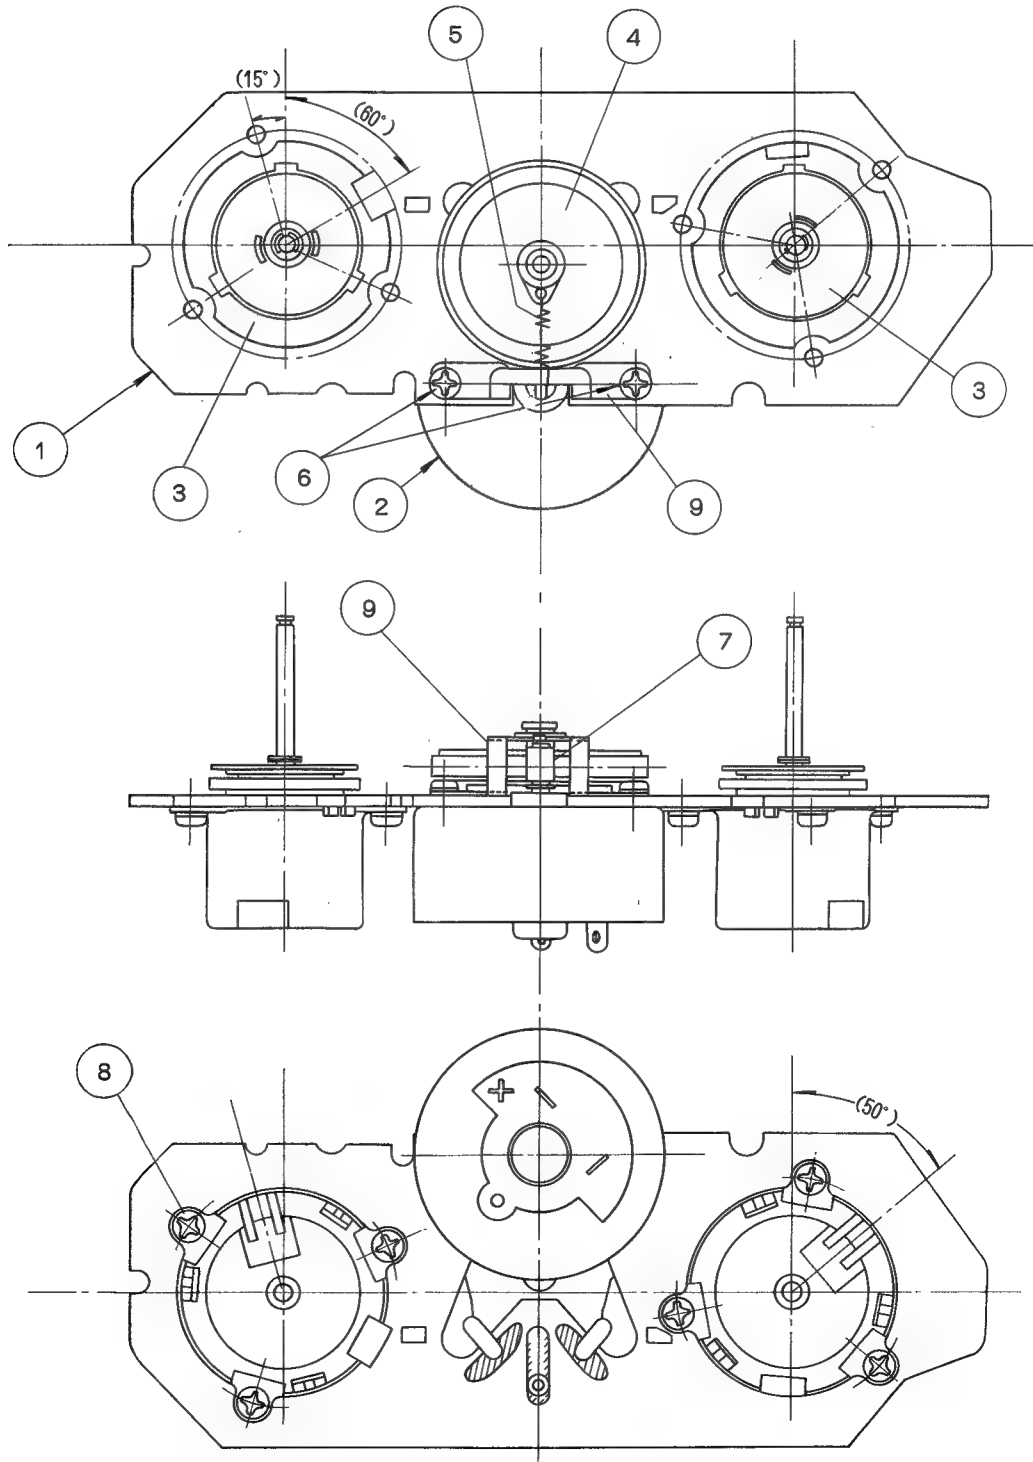

Figure 7-33.
- 1) Check that reel idler (4) is engaged with reel chassis (1) and reel idler spring (5) with the reel idler.
- 2) With care not to scratch the reel motor pulley 7, set the reel motor for exchange with two screws (XBPSD30P06J00) (Longer screw than this will damage the motor.) so that the reel motor terminal and the spring hook angle 9 align in the direction as shown in Fig. 7-33.
- 2) Move the reel idler to the center of the reel chassis as shown in Figure 7-33 and pull it toward the reel motor slightly. Then the reel idler comes off.
- 1) Fasten the replacing brake unit with three screws (XBPSD30P04J00) in the direction show in Figure 7-33.